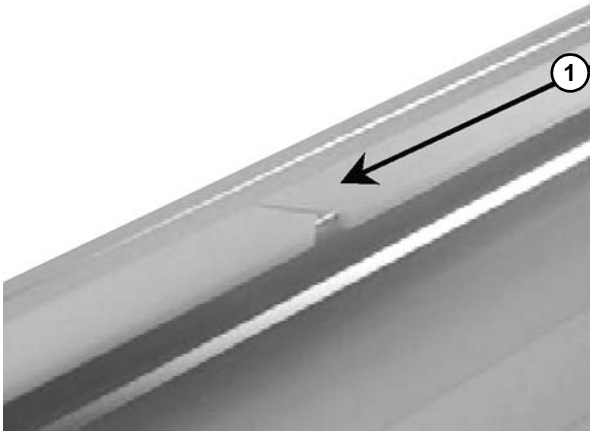

Figure 39
2. Allow a space of approximately 1/16" to 1/8" (**Figure 39, item 1**) between two wear strip ends. The travel direction is indicated by arrow.